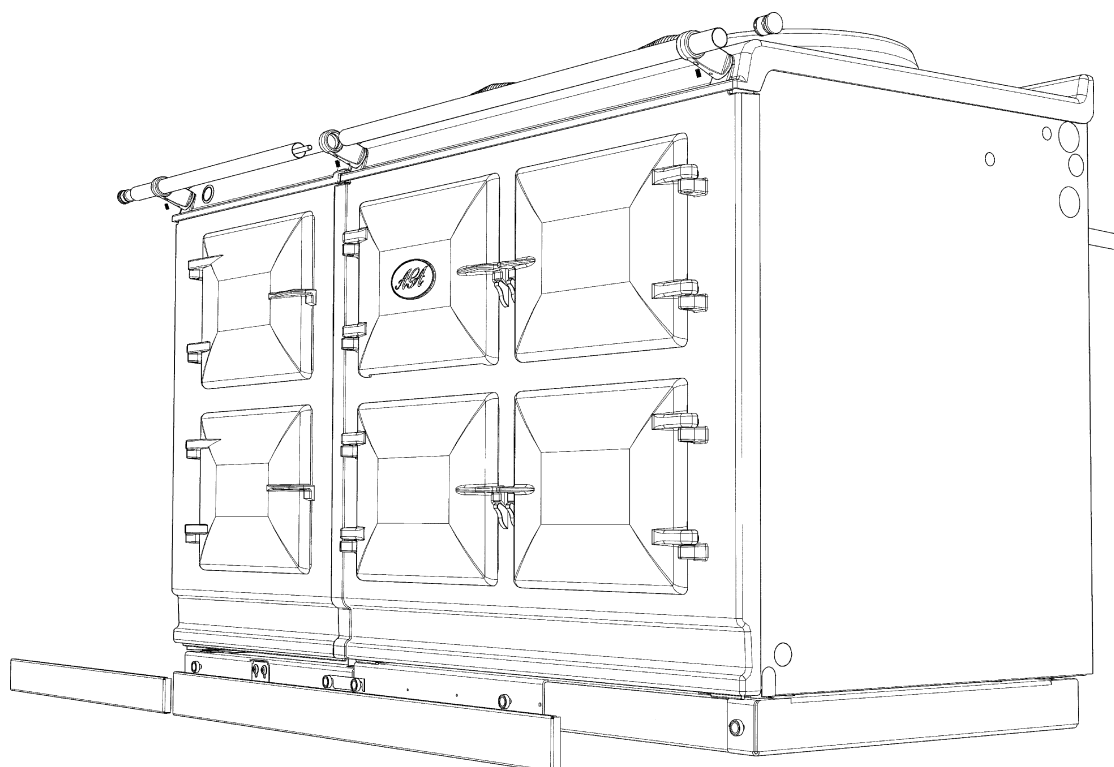

Fig. 3.12
11. On 5 oven appliances, fit 'allthread' stud into the threaded end of the handrail, then feed the handrail through the bracket (ensuring that the allthread stud is protruding from the right hand side of the hotcupboard handrail) and screw the handrails together. (Fig. 3.12).
(Fig. 3.12)